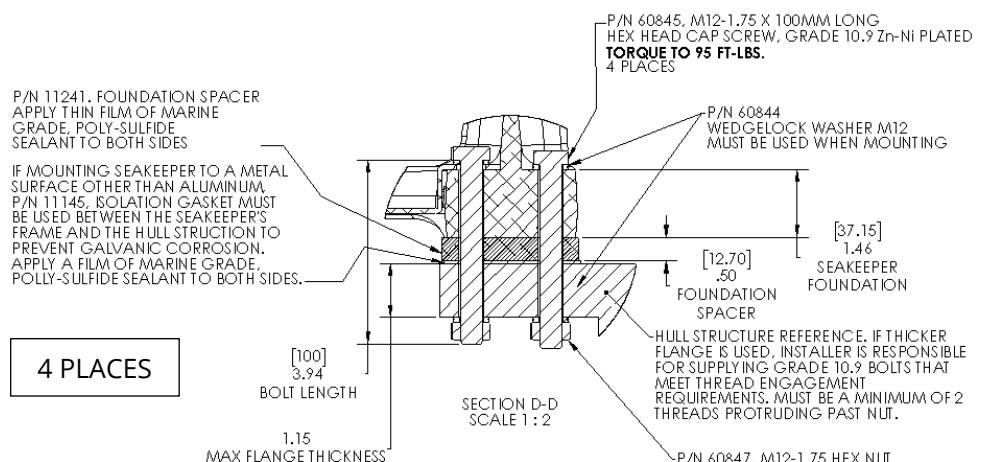

Figure 3: Seakeeper 5-6 Bolt-In Installation Guide
- Seakeeper 5-6 Foundation Bolts must be installed and torqued as specified in Figure 3.